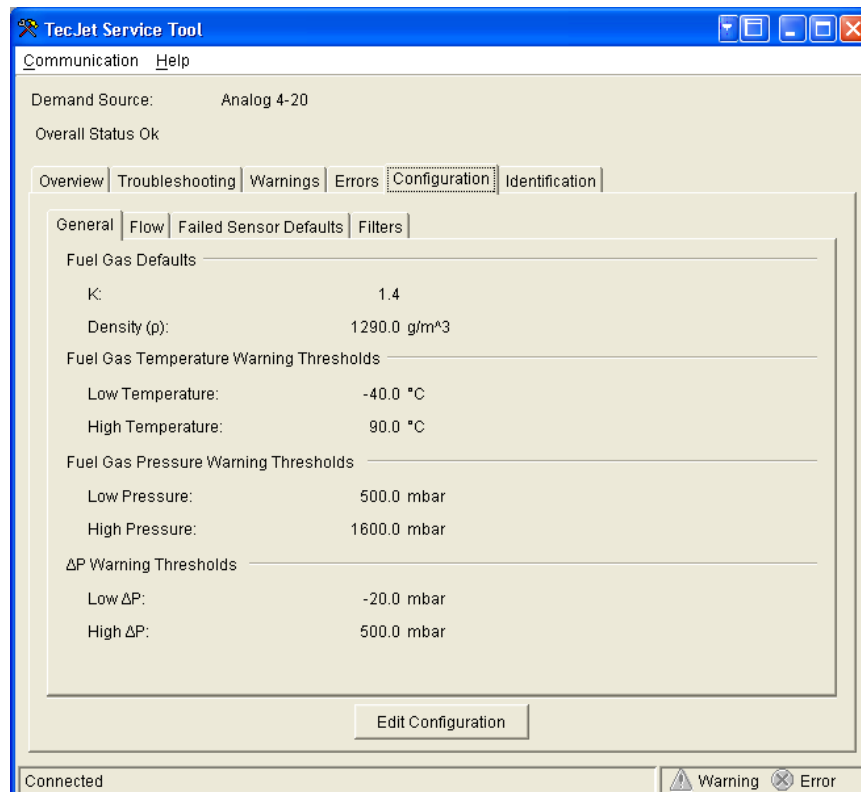

Figure 5-6. Configuration Screen
- Configuration (Figure 5-6)
To change the TecJet 52 configuration, click the Edit Configuration button on the Configuration screen (see Figure 5-6).